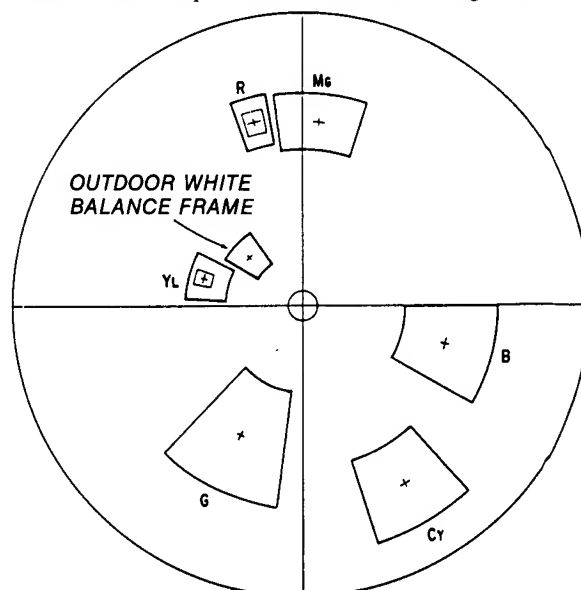

Fig. 7-35.
Specified value	Each colour bright point should be within a colour reproduction frame. (See Fig. 7-35)
- 6) Check that the 'white' brightness point moves into the outside colour reproduction frame. (See Fig. 7-35)